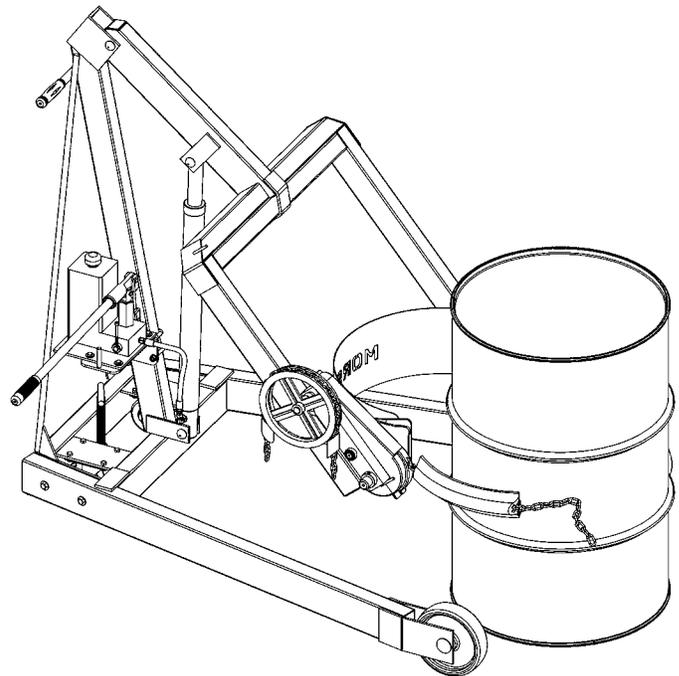

Figure 3.1
The screw-down floor lock is located on the base of the tower (figure 3.1). Turning the floor lock clockwise until it locks in the down position activates the floor lock. When the floor lock is activated it prevents unwanted free wheeling of the unit. Floor conditions determine the effectiveness of the floor lock. The operator should verify its holding action before depending on it to hold.
2. Using the "LIFT" control as described in "Machine Description - Controls" (page 3) , position the drum holder assembly with the back band at the middle of the drum. (Figure 3.1). With the ratchet plate swung open and the cinch chain hanging from the chain hook, push the unit until the back band rests firmly against the drum. Some adjustment to the tilt angle of the saddle may be necessary to ensure band fits flush on the drum.